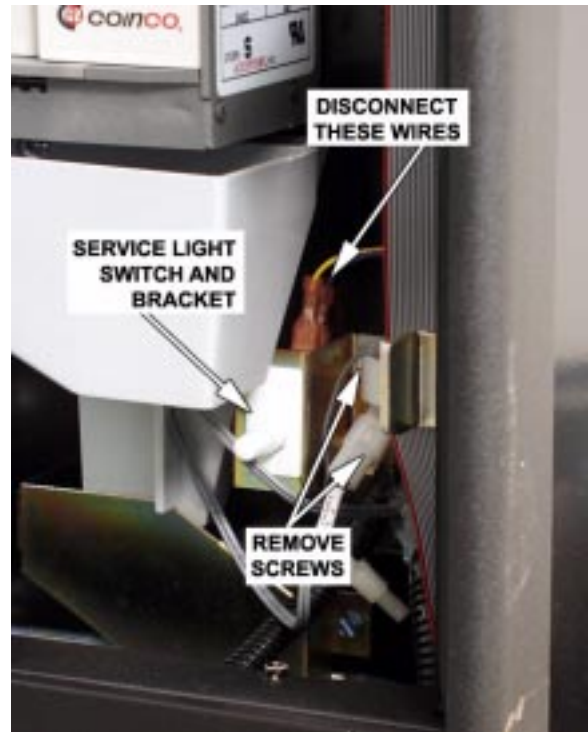

Figure 41
1. Disconnect the electrical wires from the monetary door switch (figure 41).